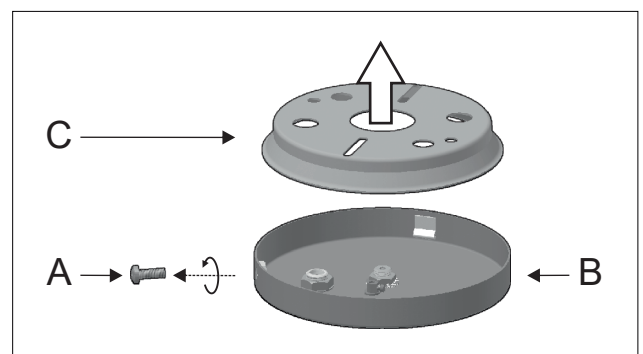

Figure 1
1 - Unscrew the lateral screw (A) to remove the canopy (B) from the mounting bracket (C). Figure 1.